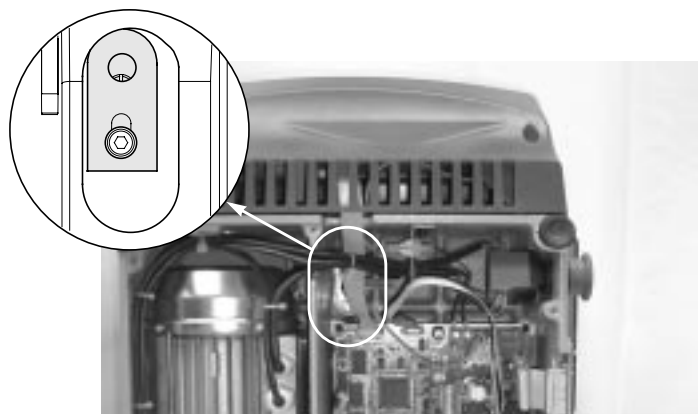

Fig. 55
- 3) disconnect the X axis sensor's connector from the electronic circuit board (fig. 55).